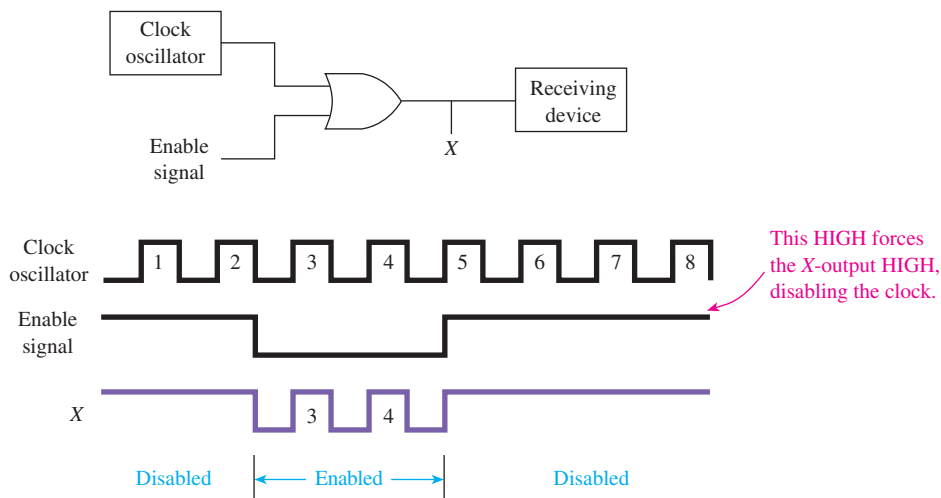

Figure 17 Using an OR gate to enable/disable a clock oscillator.
An OR gate can also be used to disable a function. The difference is that the enable signal input is made HIGH to disable, and that the output of the OR gate goes HIGH when it is disabled, as shown in Figure 17.
Let's look in more detail at one of these ICs, the 7408 (see Figure 19). The 7408 is a 14-pin DIP IC. The power supply connections are made to pins 7 and 14. This supplies the operating voltage for all four AND gates on the IC. Pin 1 is identified by a small indented circle next to it or by a notch cut out between pin 1 and 14 (see Figure 19). Let's make the external connections to the IC to form a clock oscillator enable circuit similar to Figure 17.
Figure 17. The clock oscillator signal passes on to the receiving device when the switch is in the *enable* (1) position, and it stops when in the *disable* (0) position.